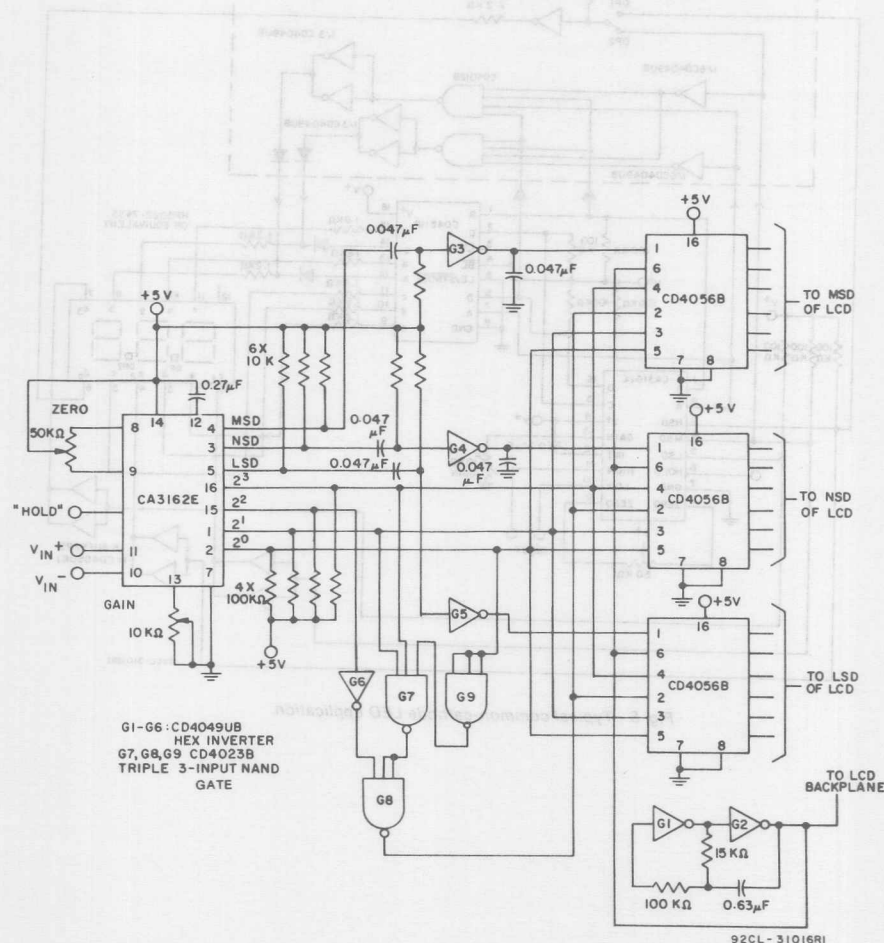

Fig. 4 - Typical LCD application.
Fig. 4 shows the CA3162E in a typical LCD application. LCD's may be used in favor of LED displays in applications requiring lower power dissipation, such as battery-operated equipment, or when visibility in high-ambient-light conditions is desired.
The circuit as shown in Fig. 4, using G7, G8 and G9, will decode the negative sign (-) as a negative sign (-), and the positive overload indicator (E) as "H".